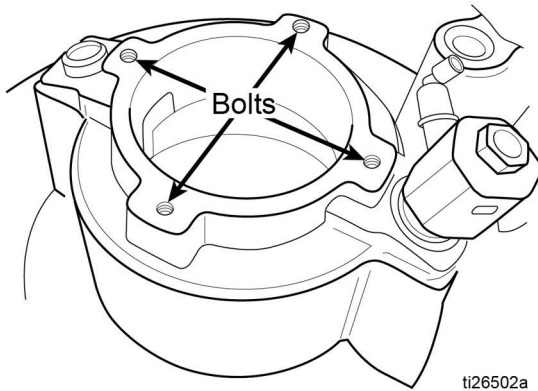

FIG. 12
3. Lower pump onto platen and align so the bolts from the pump can be attached to the platen (FIG. 12).